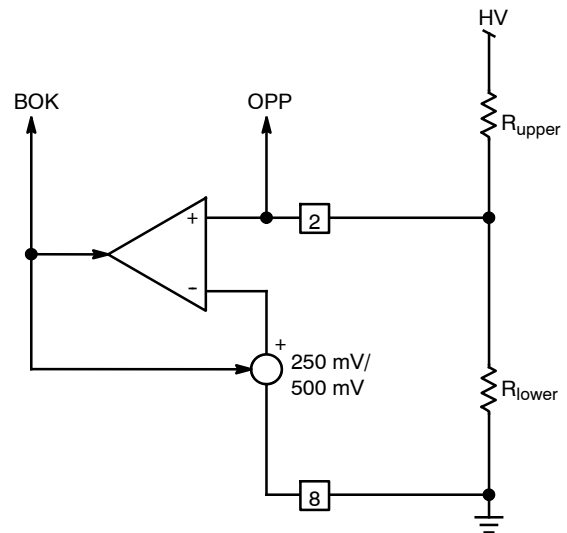

Figure 29. A Way to Implement a BOK Detector on Pin 2
Also called “Bulk OK” signal (B_{OK}), the brown-out (BO) protection prevents the power supply from being adversely destroyed in case the mains drops to a very low value. When this occurs, the controller no longer pulses and waits until the bulk voltage goes back to its normal level. A certain amount of hysteresis needs to be provided since the bulk capacitor is affected by some ripple, especially at low input levels. For that reason, when the BO comparator toggles, the internal reference voltage changes from 500 mV to 250 mV. This effect is not latched: that is to say, when the bulk capacitor is below the target, the controller does not deliver pulses. As soon as the input voltage grows-up and reaches the level imposed by the resistive divider, pulses are passed to the internal driver and activate the MOSFET. Figure 29 offers a way to connect the elements around Pin 2 to create a brown-out detection. Please note that this technique does not use a current source for the hysteresis but rather a capacitor. It offers a way to freely select the resistive bridge impedance.